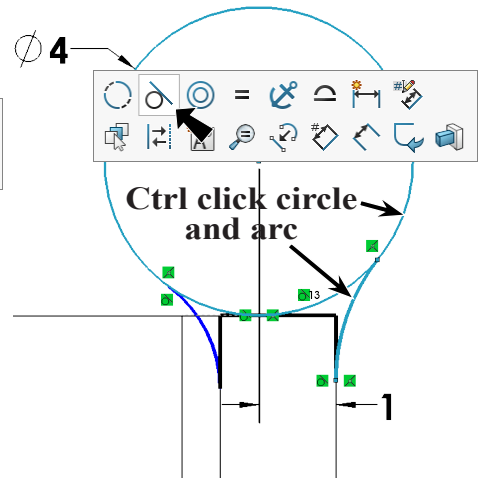

Fig. 9
Step 17. **Ctrl click other arc and circle** to select both. Release Ctrl key and click **Make Tangent**  on the context toolbar, **Fig. 9**.